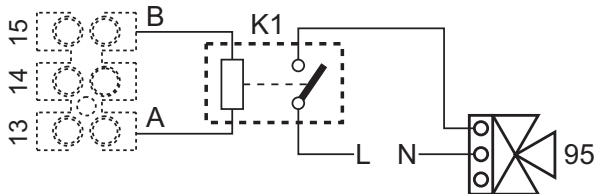
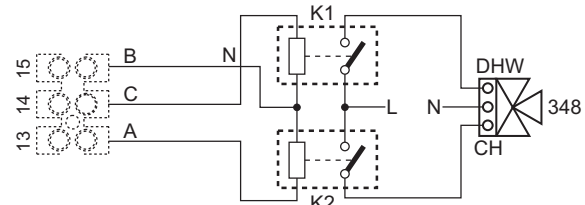
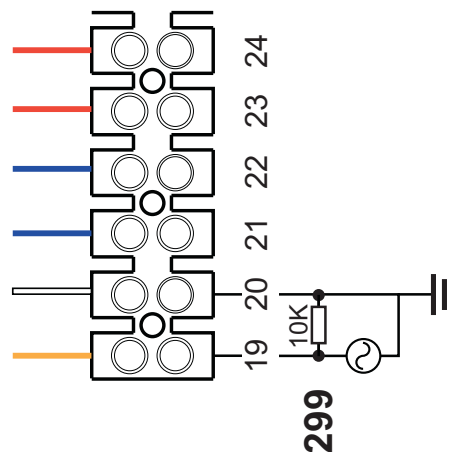

fig. 124- Connection of the 3-way valve with 2 wires
fig. 125- Connection of the 3-way valve with 3 wires
fig. 126-
**ATTENTION:** To connect the 3-way valve (terminals 13 - 14 - 15), refer to the diagrams of fig. 124 and fig. 125.
**ATTENTION:** In case of instability in the reading of the 0-10V signal by the electronic controller, it is advisable to connect the signal reference to ground, and insert a 10K resistor in parallel, as per fig. 126.
### Legend of figures fig. 124, fig. 125, fig. 126 and fig. 127